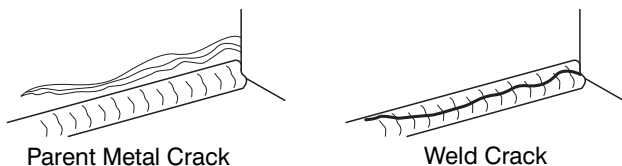

Figure 2-2. Examples of cracks
2. **Base Frame** - Check for cracks or corrosion, especially around the mast-stump base (see Figure 2-2.). Check level bubble is clean and secure.
4. **Carriage Frame** - check for visible cracks; check rollers for visible wear; check carriage frame welds for visible cracks (see Figure 2-2.).